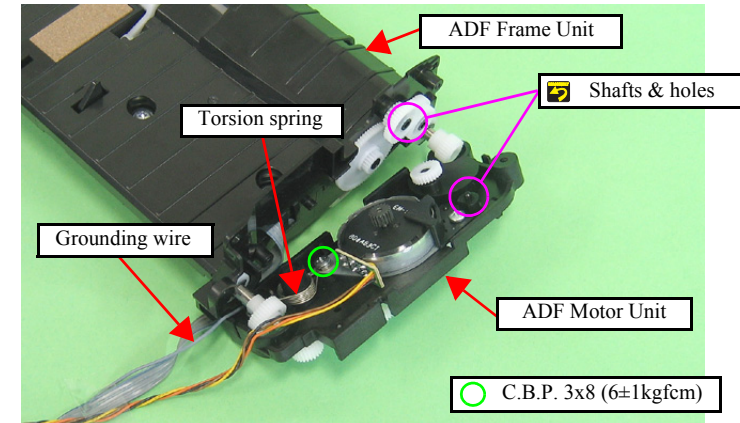

Figure 4-148. Removing the ADF Motor Unit (2)
- Insert the shaft of the ADF Motor Unit to the hole of the ADF Frame Unit as shown in Fig. 4-148.